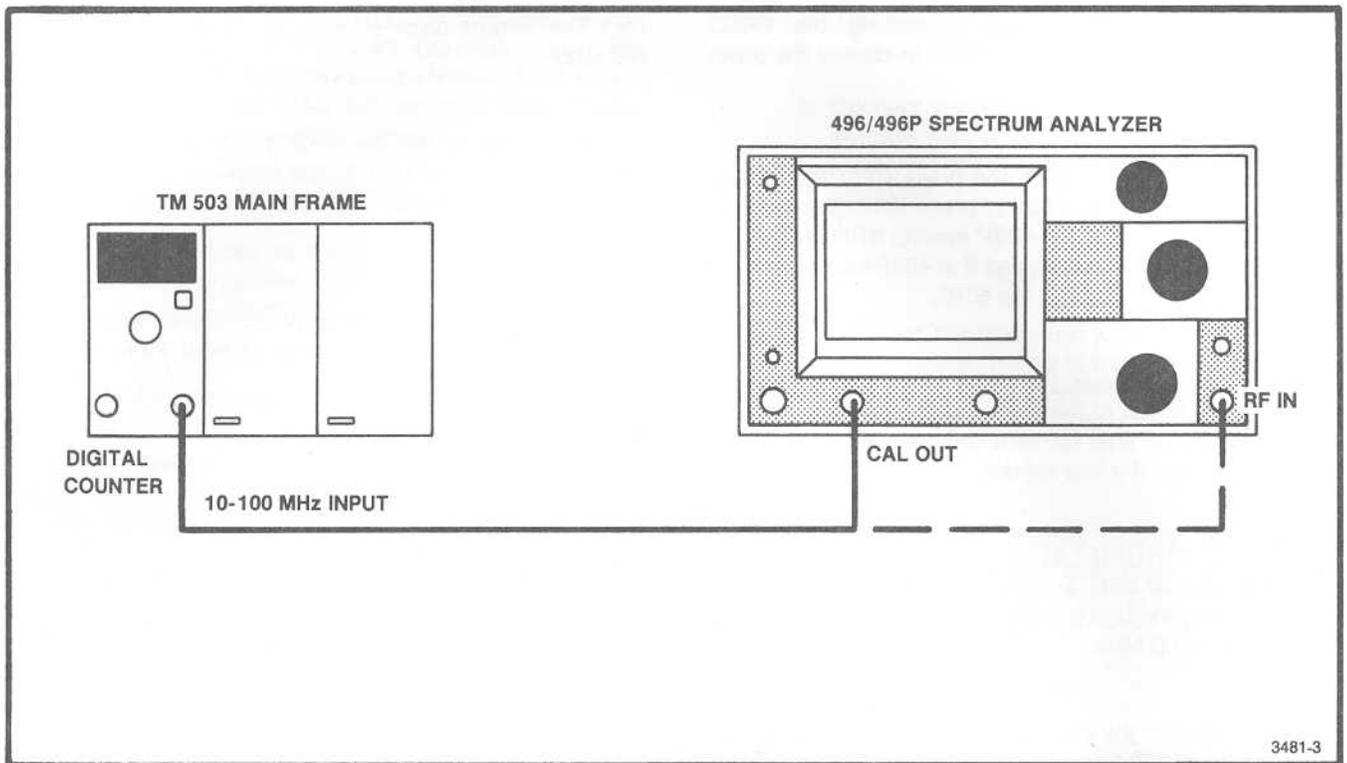

Fig. 3-1. Test equipment setup for checking frequency of the calibrator and the accuracy of the frequency readout.
a. Test equipment setup is shown in Fig. 3-1. Set the front-panel controls as follows, then apply the **CAL OUT** to the **RF INPUT**.